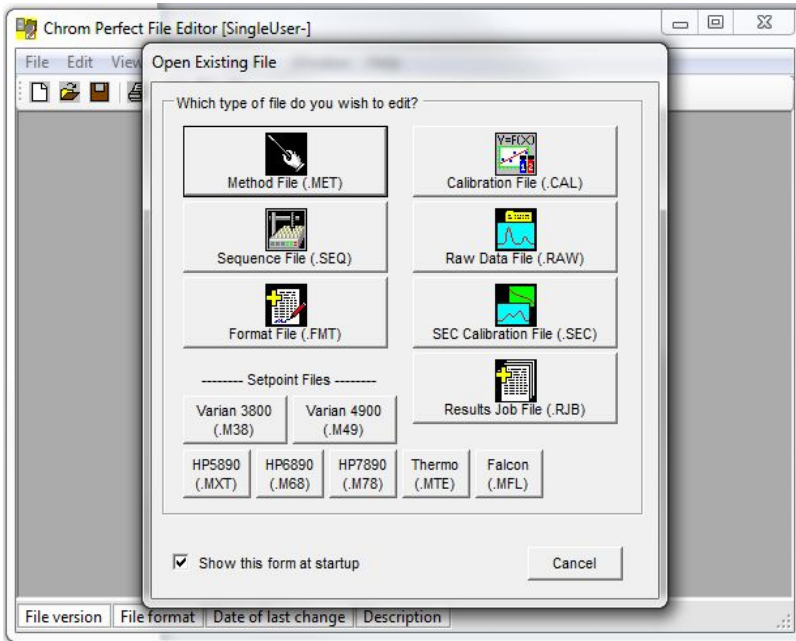

Figure A-32: Open Method File (.MET)
2. Once in Chrom Perfect File Editor window, select **Method File (.MET)** button (Figure A-32).